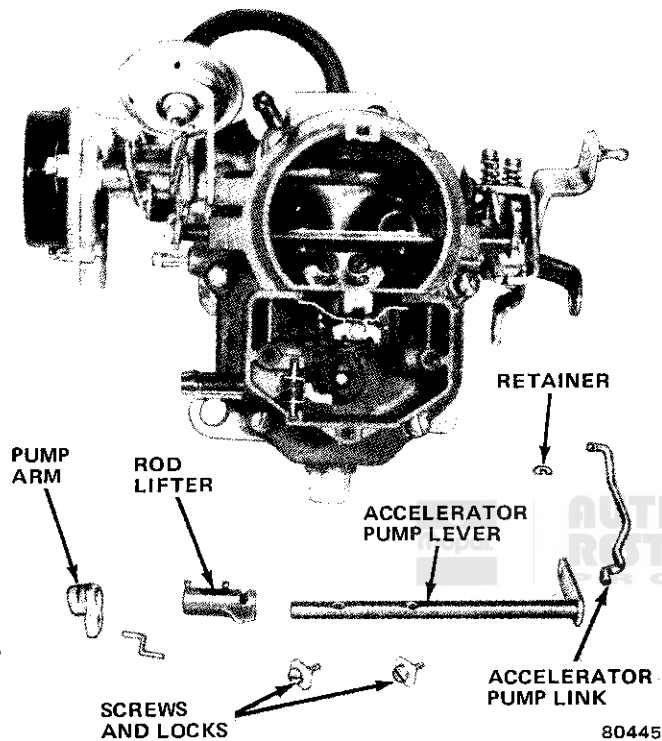

Fig. 1J-23 Accelerator Pump and Lever
(3) Remove cover and gasket from top of air horn.
(4) Remove screws and locks from accelerator pump arm and vacuum piston rod lifter. Slide pump lever out of air horn. Remove pump arm and rod lifter. Lift vacuum piston and metering rod assembly straight up and out of air horn. Remove vacuum piston spring (fig. 1J-24).
(5) Disconnect clips and remove link from choke housing lever and choke lever.
(6) Remove screw and lever from choke shaft.
(7) Remove vacuum hose from carburetor main body and choke vacuum diaphragm. Remove choke diaphragm, linkage and bracket assembly. Place diaphragm aside to be cleaned separately.
(8) Remove fast idle cam retaining screw. Remove fast idle cam, linkage and clip.
(9) Remove choke housing cover, retainers and screws. Remove gasket and baffle.
(10) Remove choke housing from throttle body.